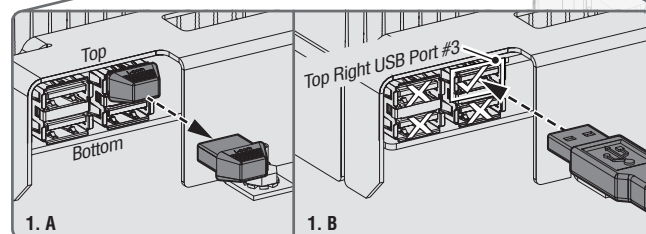

Figure 1. Removing the dummy USB and connecting to USB Port #3 on the upper right side of the controller.
5. Use pliers to unplug the upper right dummy plug from USB socket on control board (controller). (Figure 1.A)
6. USB Port #3 must be used to connect the camera. The Micro USB end of the USB cable goes into the camera and the standard USB end of the cable specifically connects to USB port #3, (the upper right USB port on the controller.) (See Figure 1.B)